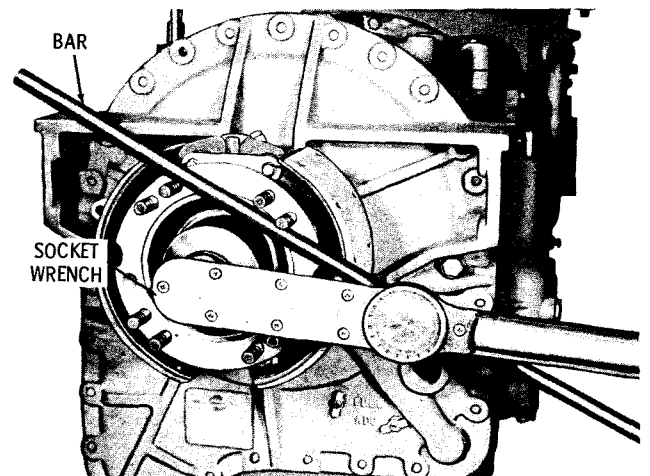

Fig. 7-113. Tightening output flange nut
(32) Using a 3 1/8-inch socket and a suitable bar, install the output flange retaining nut (fig. 7-113). A very light coating of molybdenum disulphide grease will make installation of the nut easier. Tighten the nut 700 to 1000 pound feet torque.